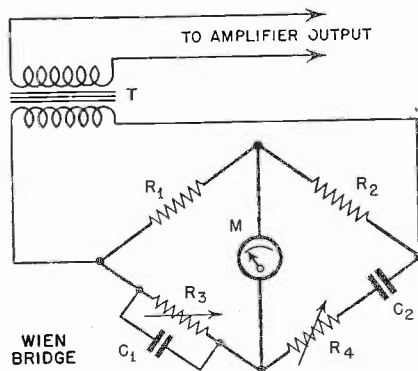

Fig. 5
• Certain bridge circuits, notably the Wien bridge (see Figure 5) can be used for the identification of frequencies in the audio-frequency spectrum. If an alternating voltage is delivered to the bridge circuit, the latter may be adjusted for a null at that particular signal frequency. The null point would not hold for the same voltage of another frequency. Thus, the adjustable element of the bridge might be calibrated to read directly in cycles per second.
Since the bridge may be balanced for only one frequency at a time, it would appear that any residual voltage indicated by the vacuum-tube voltmeter, M at null would be due to some other frequency or frequencies (such as harmonics of the fundamental). And this harmonic voltage would be due to the total of harmonic voltages present. As such, the bridge might be connected, as shown in Figure 5, to the output circuit of an audio-frequency amplifier which is passing a signal from a high-quality audio oscillator.